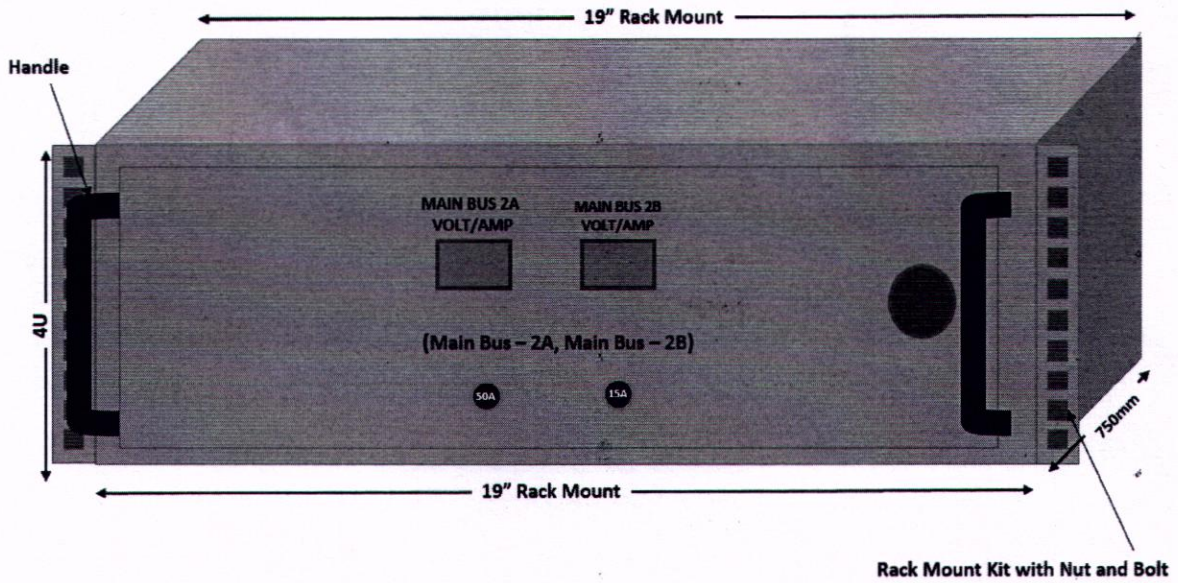

Figure 3: Front panel of PDU2
- Front panel shall be installed with Emergency stop switch, CBs and digital voltmeters with legends to indicate the name of each bus as shown in **Figure 3**.